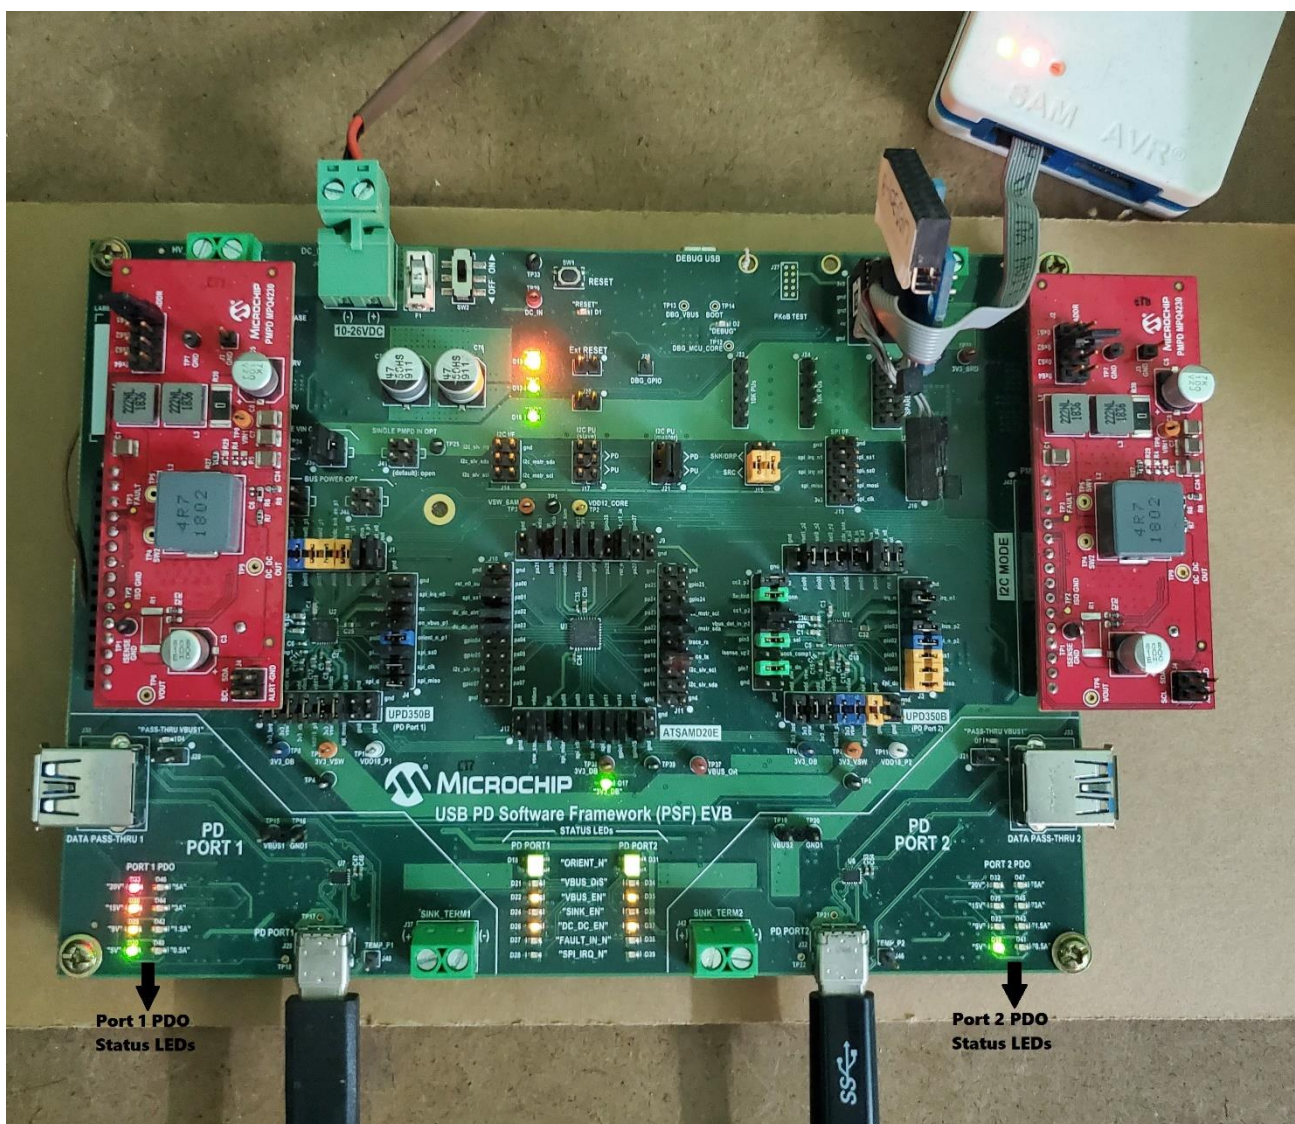

Figure 7.2 PDO Status LEDs after device attach
4. Once an explicit power contract negotiation is in place, the device starts charging. PDO status LEDs will turn ON indicating the negotiated voltage as shown in Figure 7.2
5. In our case, Google Pixel connected in Port 1 has requested 9V and Samsung Galaxy in Port 2 has requested 5V. The status of PDO status LEDs is shown in Figure 7.2